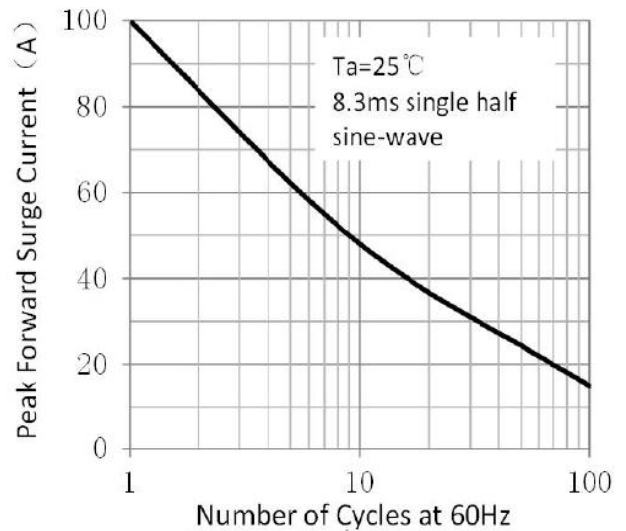

Figure 4. Maximum Non-Repetitive Peak Forward Surge Current
3. Measured on 8.3ms single half sine-wave or equivalent square wave, for unidirectional device only Fig.4.